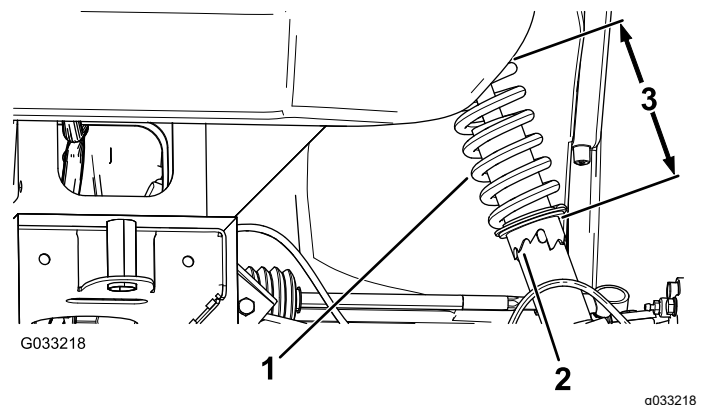

Figure 47
- If the wheel camber is out of alignment, use the spanner wrench to rotate the collar on the shock absorber to align the wheel (Figure 47).